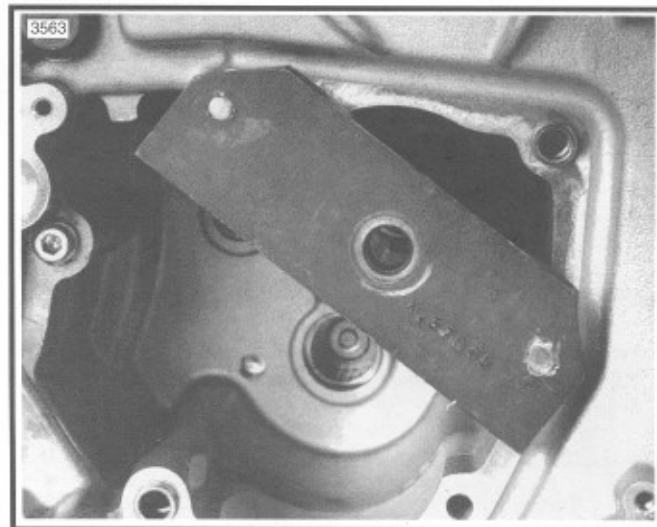

Figure 6-50. Cross Plate Mounting
1. Locate Main Drive Gear Remover and Installer Tool. See Figure 6-50. Place support bracket pins in appropriate holes in transmission case.